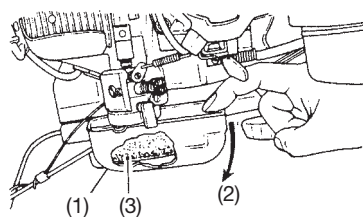

Fig. 9
- 1) Clean the air cleaner element with soap and water and dry before reuse. (Fig. 9)